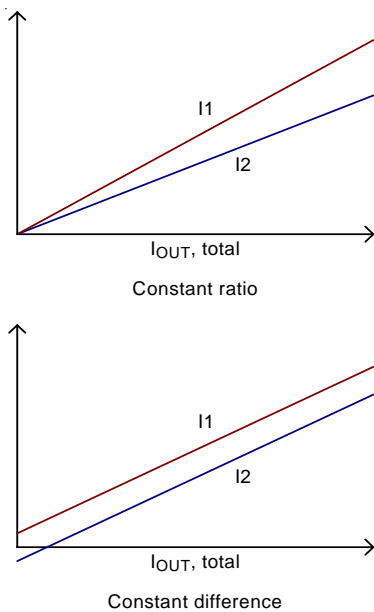

Figure 10. Category of Phase Current Imbalance
If phase current is not balanced due to asymmetric PCB layout of power stage, external resistors can be adjusted to correct current imbalance. Figure 10 shows two types of current imbalance, constant ratio type and constant difference type. If the initial current distribution is constant ratio type, according to Equation (3), reducing  $R_{CSN}[1]$  can reduce  $I_L[1]$  and improve current balance. If the initial current distribution is constant difference type, according to Equation (2), increasing  $R_{CSP}[1]$  can reduce  $I_L[1]$  and improve current balance.